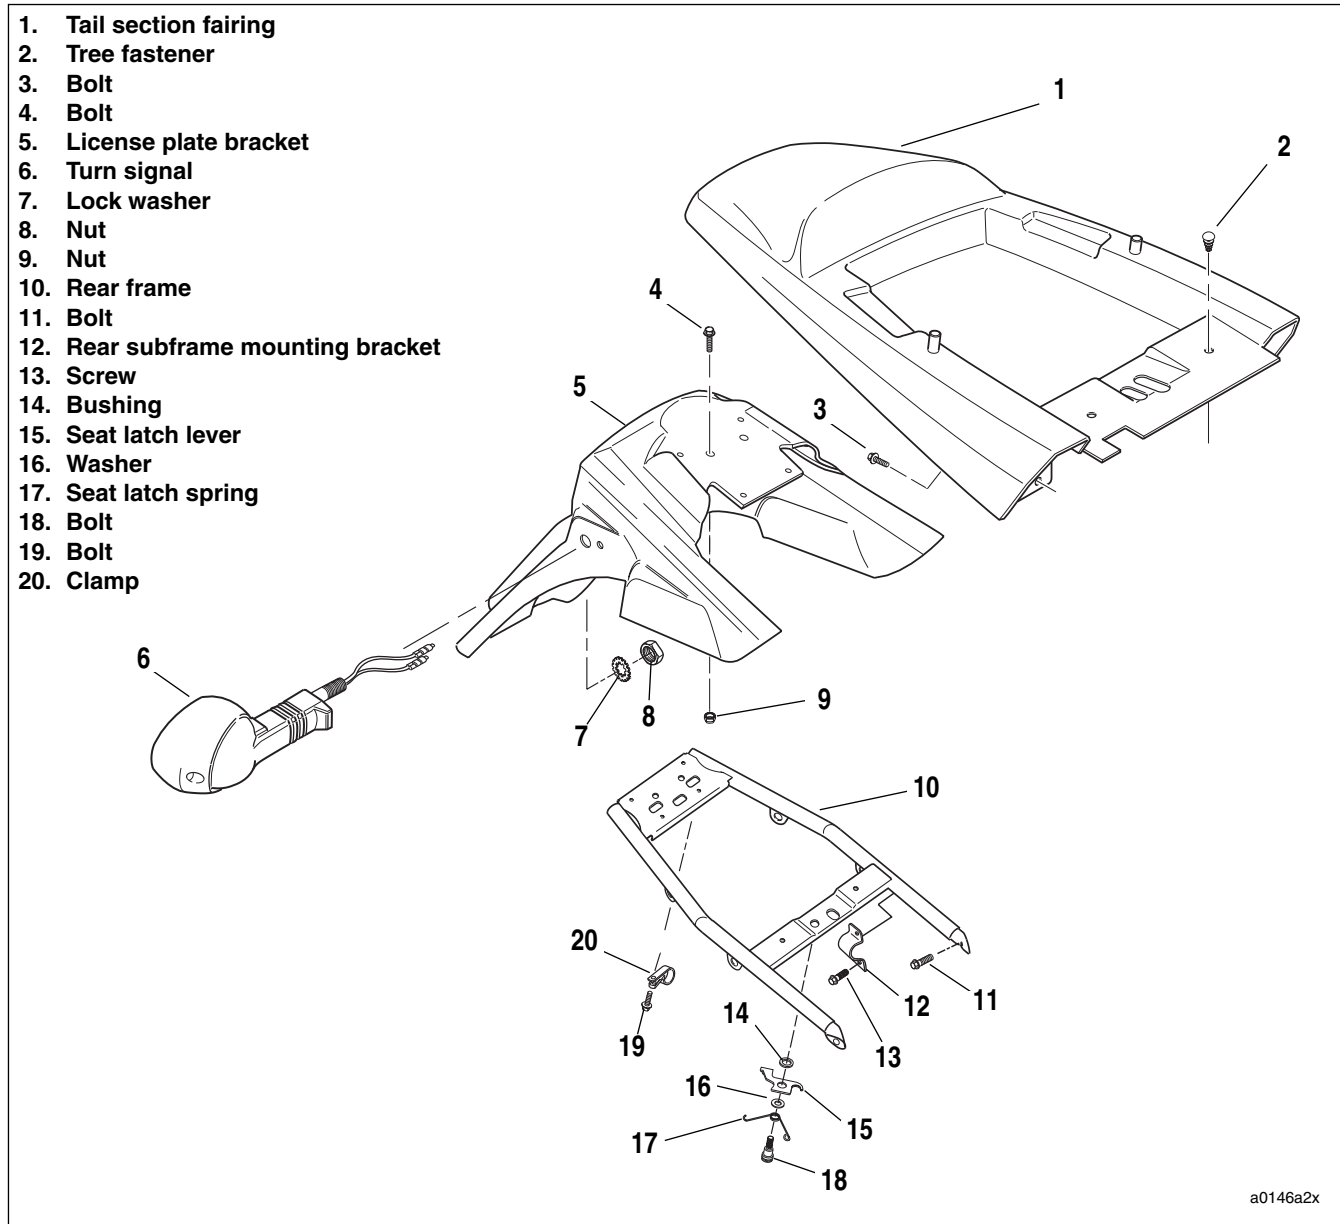

Figure 2-110. Tail Section
2. See Figure 2-110. Remove fasteners and clamp (3, 19 and 20).
3. Remove tree fasteners (2).
4. Remove tail section (1).
9. Remove nut (8) and lock washer (7).
10. Remove turn signals (6).
3. See Figure 2-110. Remove fasteners (13) and bracket (12).
4. Remove fasteners (11).
5. Slide rear frame assembly (10) out.
1. See Figure 2-110. Slide rear frame assembly (10) into frame.
2. Install fasteners (11).
3. Install brackets (12) and fasteners (13).
1. See Figure 2-110. Install license plate bracket (5) using fasteners (4) and nuts (9) in rear holes.
3. Install turn signals (6) using lock washers (7) and nuts (8).
5. Install tail section (1) using fasteners (3, 19, 20).